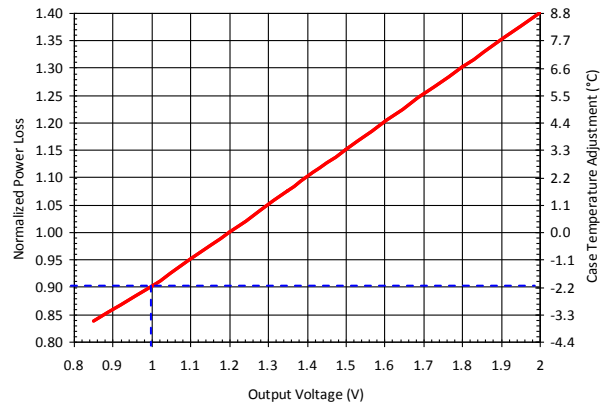

Figure 12: Normalized Power Loss vs. Output Voltage
- 3) Determine the output voltage normalizing factor with  $V_{OUT}=1V$ , which is 0.90 based on the dashed lines in Figure 12.